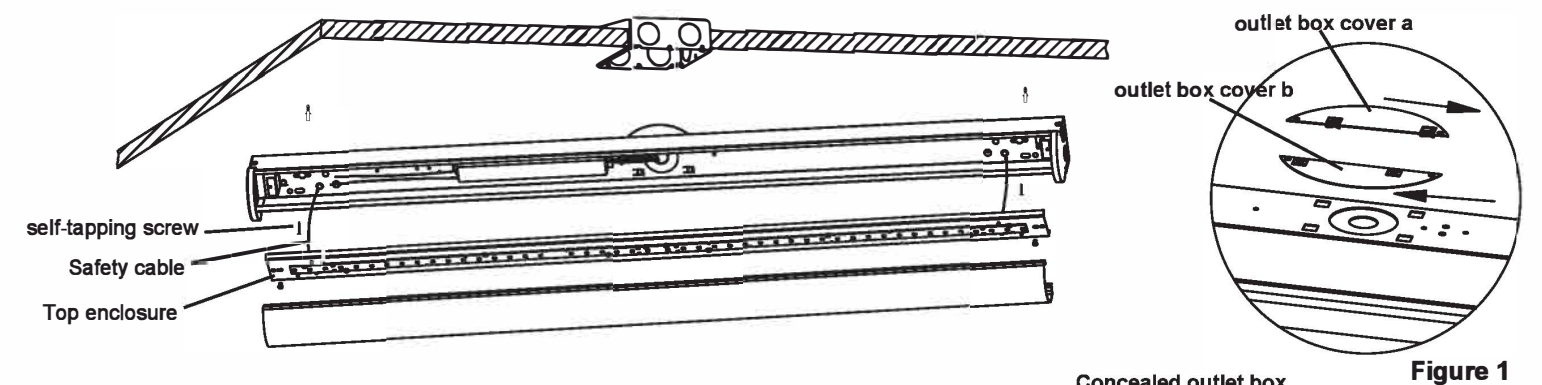

Figure 1
- Step1: Lock the tabs into the openings, then push the cover a to the right, and push the cover b to the left. (Figure 1)
- Step1: After installing the luminaire, insert the provided chips (4 pcs) onto the wire guard. (fig 1).